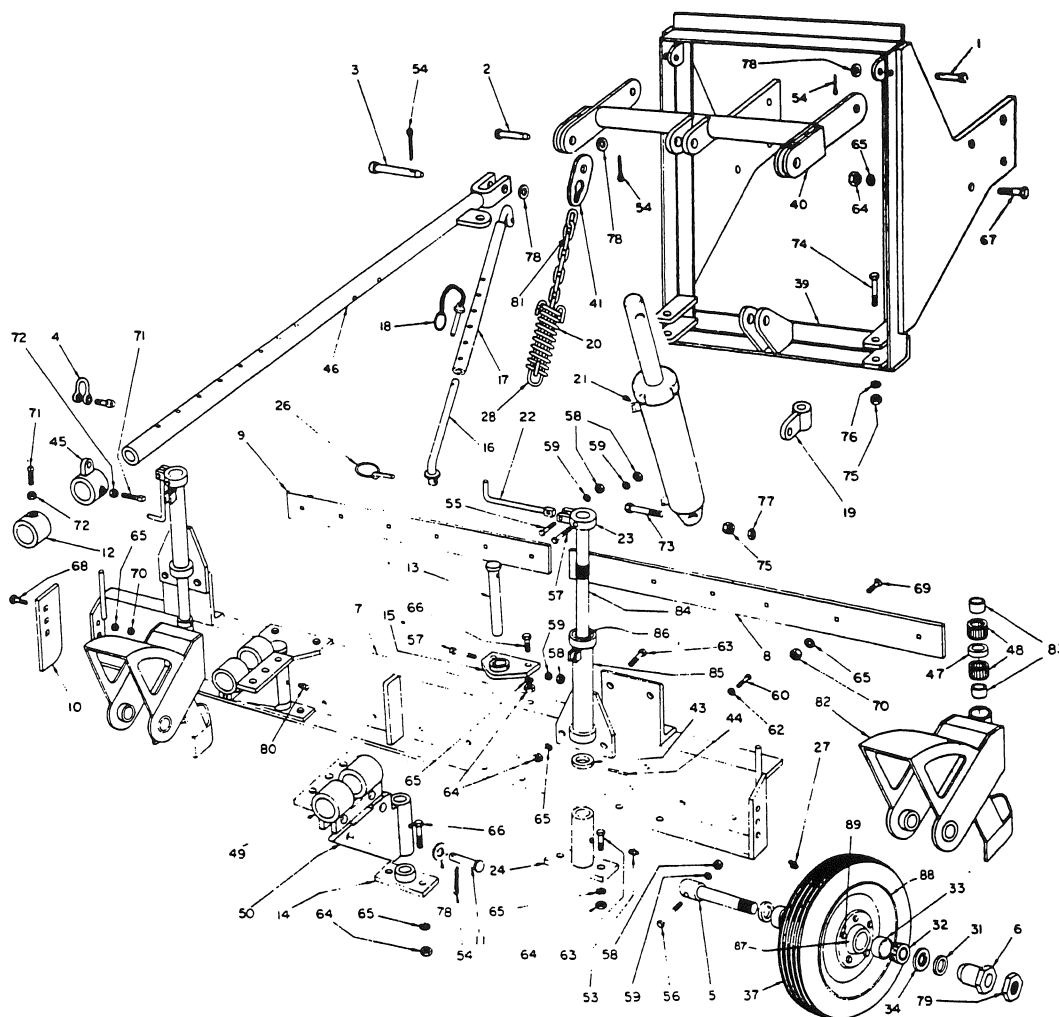

Figure 13
1. Removal and Disassembly (Fig. 13).
- a. Remove the pal nuts (79), adjusting sleeve (6) and spacer (31).
- b. Remove the hexagon head bolt (56), nut (58) and lockwasher (59) retaining the axle (5). Remove the axle, spacer, swivel housing (82) and wheel.
- c. Remove and inspect the two seals (34), bearing cones (32) and bearing cups (33) for serviceability. Replace faulty bearing and seals.
- d. Using a suitable drift, carefully remove the needle bearing inner races (83) and cages (48), together with the spacer (47). Inspect the bearings for serviceability. Replace faulty bearings.
12. Assembly and Installation (Fig. 13). To assemble the wheel axle and swivel housing assemblies, proceed as follows:
- a. Lubricate the bearing cones (32) and bearing cups (33) with grease. Carefully install the bearings into the wheel hub bore, followed by the two seals (34).
- b. Place the wheel at its position in the swivel housing (82), and install the axle (5) and spacer (31), taking care not to damage the seals. Retain the axle with the hexagon head bolt (56), nut (58) and lockwasher (59).
- c. Install the spacer. Install the adjusting sleeve (6), and tighten sufficiently to maintain free-running of the wheel bearings; then install and tighten the pal nut (79).
- d. Using a suitable drift, install the needle bearing inner races (83) and cages (48), together with the spacer (47).
KEY TO FIG. 13